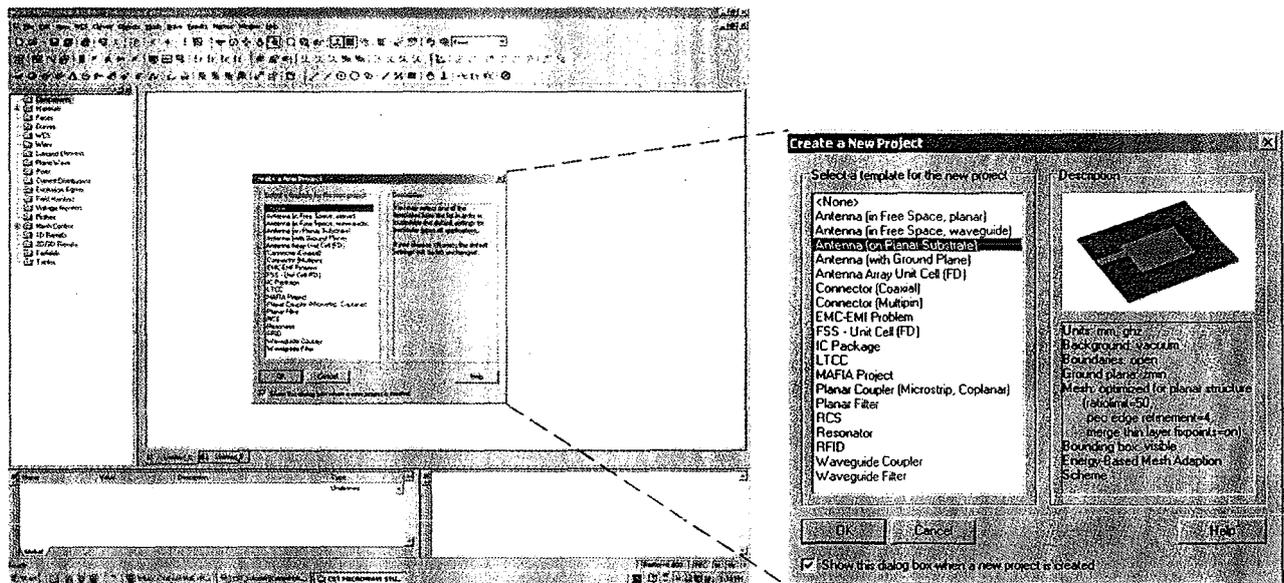

Fig. 2 Create new project window
- d. A new pop-up window called “Create a New project” will appear, from this window that shown in Fig. 2 you can select the type of project you are working on, i.e. Antenna (on planar substrate) in case of designing a